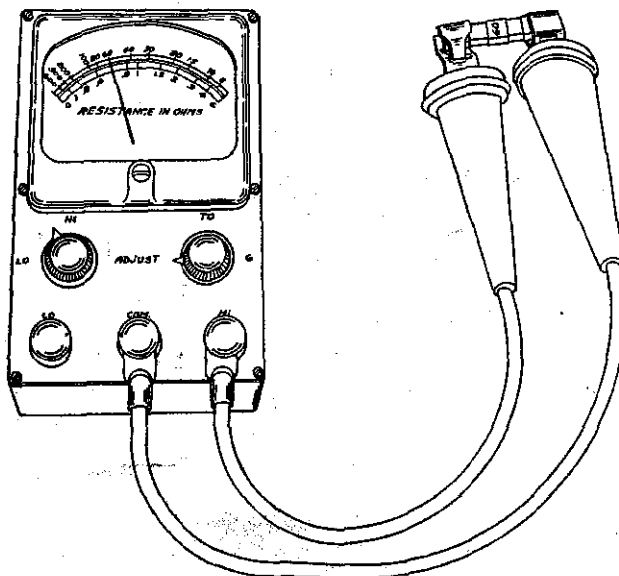

FIGURE 51
1. Check the resistance of the carbon resistors. They should be removed from the regulator and checked with ST-284 ohmmeter. See Figure 51.